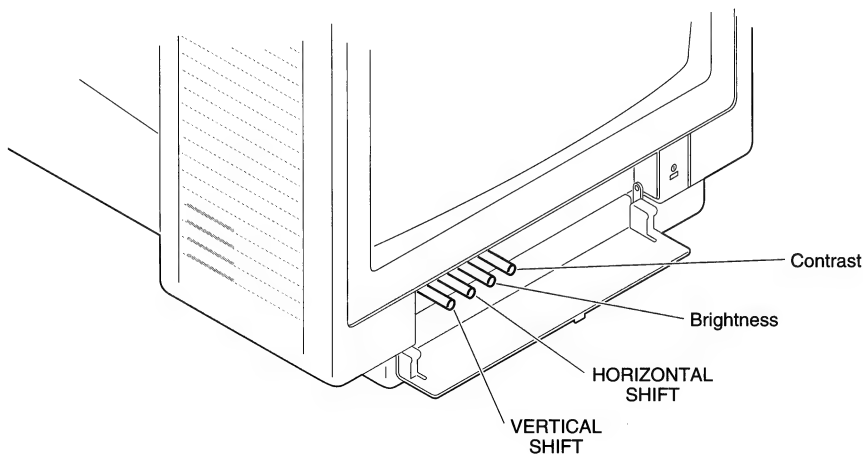

Figure 2 Centering Controls
- FIGURE 2. Turn the VERTICAL SHIFT control until the raster is centered (top to bottom) in the bezel.